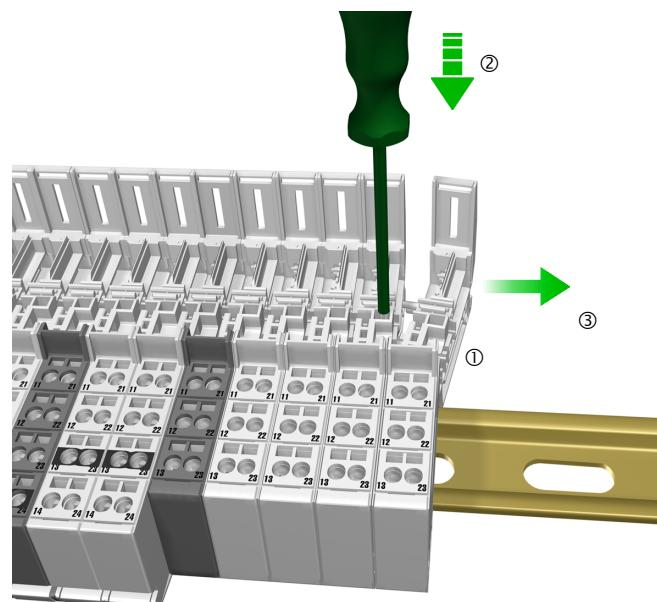
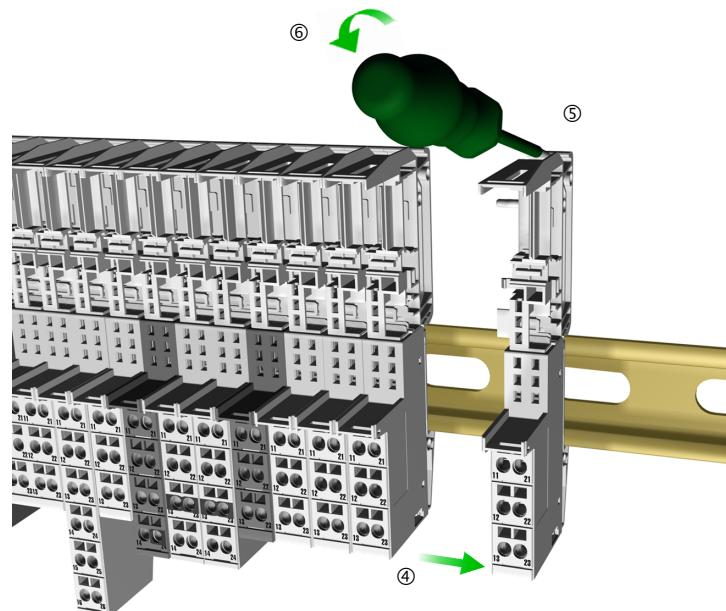

Fig. 318: Dismounting base modules in slice design
Fig. 319: Dismounting base modules from the mounting rail
- Carry out the steps indicated in **Fig. 318: Dismounting base modules in slice design (Seite 482)** and **Fig. 319: Dismounting base modules from the mounting rail (Seite 483)**. The method is identical at this point for both slice and block base modules.